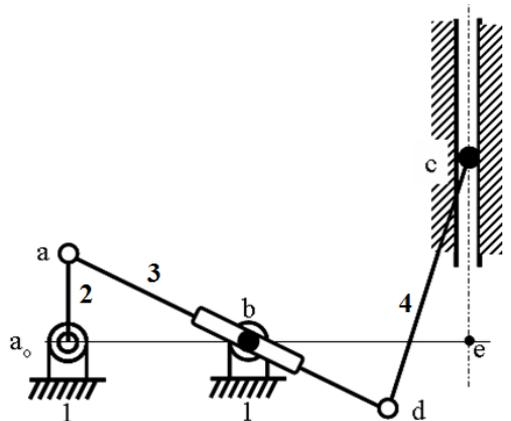

Fig. 6 Four-bar mechanism
6. Fig. 6 show a crank-slider. For the mechanism, if  $a_{a_o}=200\text{cm}$  ,  $a_{o_b}=400\text{cm}$  ,  $ad=800\text{cm}$  ,  $cd=600\text{cm}$  ,  $be=500\text{cm}$  , and  $\omega_2=100\text{ rad/s}$  . (a) According to the real dimensions of mechanism, please redraw this mechanism, (b) Using instant center method, find the angular velocity of link 3 ( $\omega_3$ ) and linear velocity of point c ( $V_c$ ). (15%)